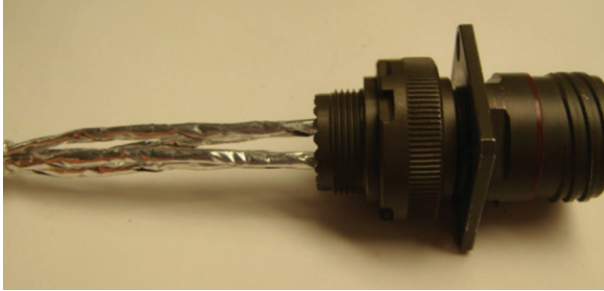

Figure 69: Connecting the grommet to the receptacle
27. Slide the connector grommet to the receptacle, and torque it to 40 inch-pounds using the appropriate torque fixtures (Figure 69).